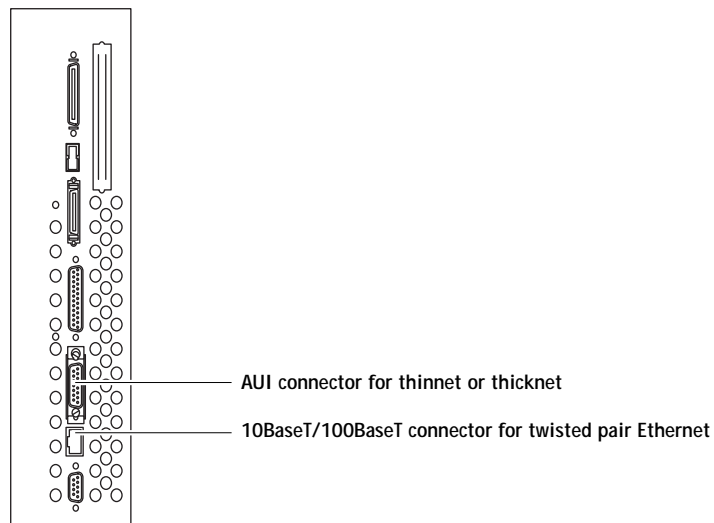

FIGURE 2-9 E-650 network connectors
- A 10BaseT/100BaseT RJ-45 connector for attaching a Category 3 or Category 5 unshielded twisted pair (UTP) network cable (see Figure 2-9). Category 5 is required for 100BaseT.